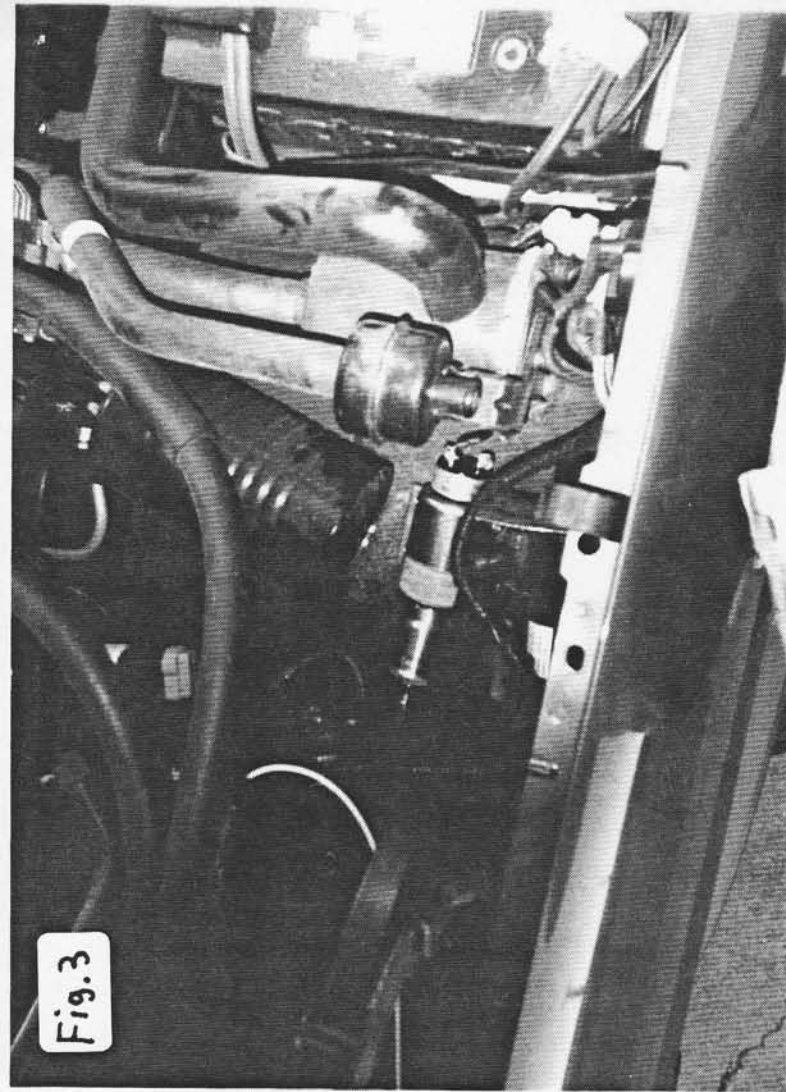

Fig. 3
16. Mount solenoid on the fender skirt by fan motor as shown in figure 3.